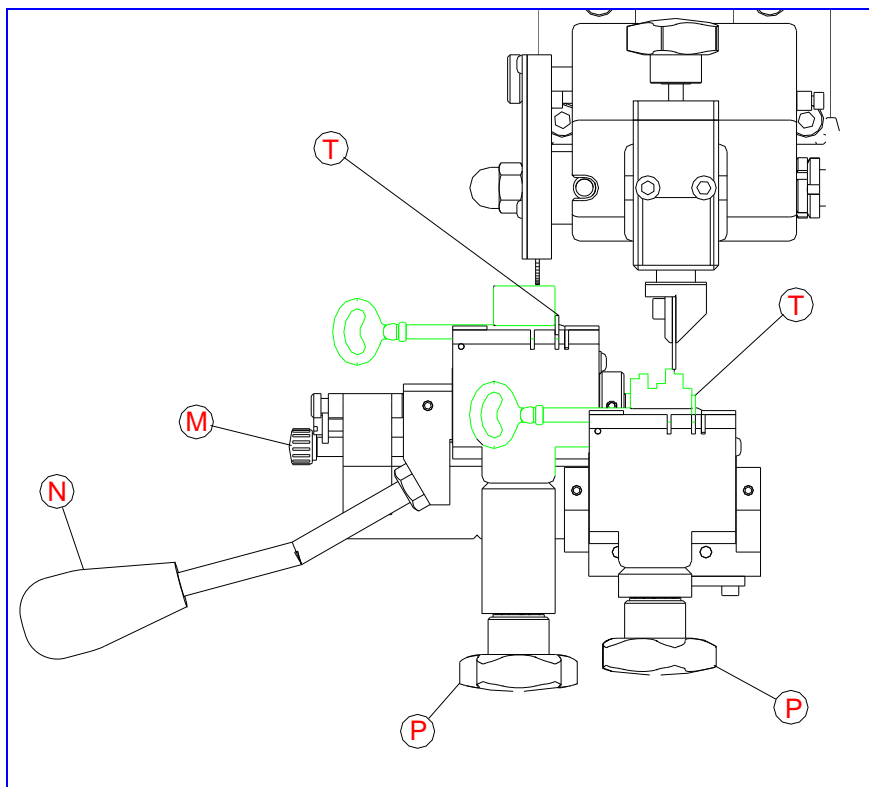

Fig.3
- Undo the knobs (15) and align the first position of the slide (R1) with the reference point (S).
- Insert the keys into the clamps, taking care that the blade of the key butts up against the clamp's key stop plate (T), as shown in Fig.3. Once the key has been inserted clamp the keys by tightening the knobs (P).
- Start the machine and holding the slide by means of the lever, bring the keys towards the tracer point (I) and the cutter (F).
- We recommend that you work slowly, without forcing the cutter. Cutting is achieved by turning the clamp-holder slide using the knob (N), to do this you have to move the rod (M) to the left. It is best to carry out the machining, by turning the knob (N), from top to bottom.